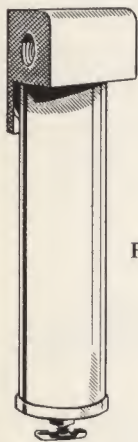

Fig. 71
89. What is an air condenser? (Fig. 71)